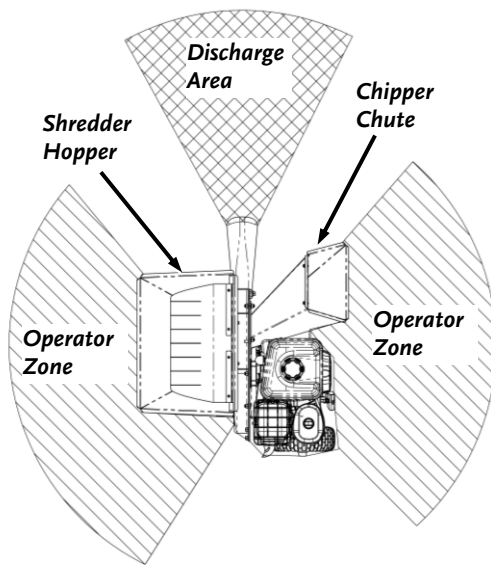

Figure 14
- ALWAYS operate the DR PREMIER 300 CHIPPER SHREDDER from the Operator Zones (**Figure 14**).